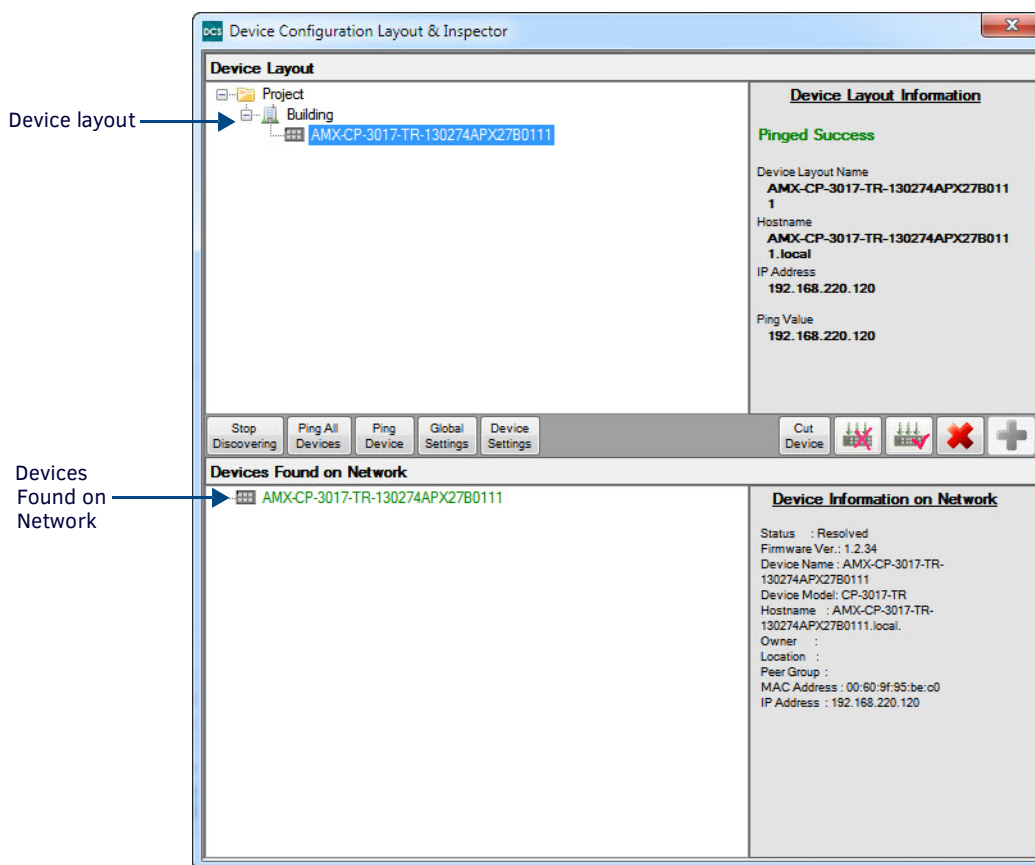

**FIG. 34** Bonjour Preference dialog
1. From the Tools menu, select **Bonjour Preference**. The *Bonjour Preference* dialog opens (FIG. 34).